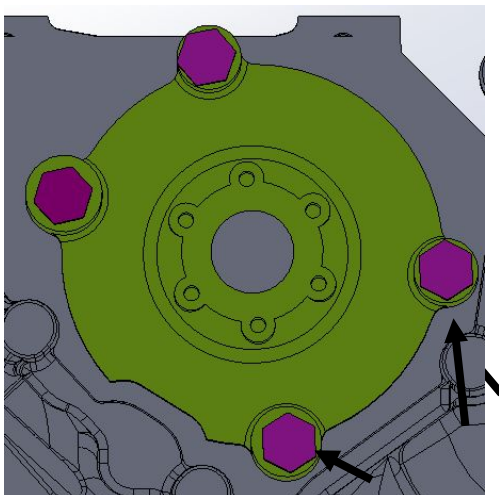

Figure 2
5. Slide the Coyote EWP® Adaptor Plate Assembly into the open profile of the existing mechanical water pump, ensuring the large O-Ring sits comfortably in its groove and the mounting holes align with those on the engine block. Secure in place with the bolts from the mechanical water pump (refer Figure 2).